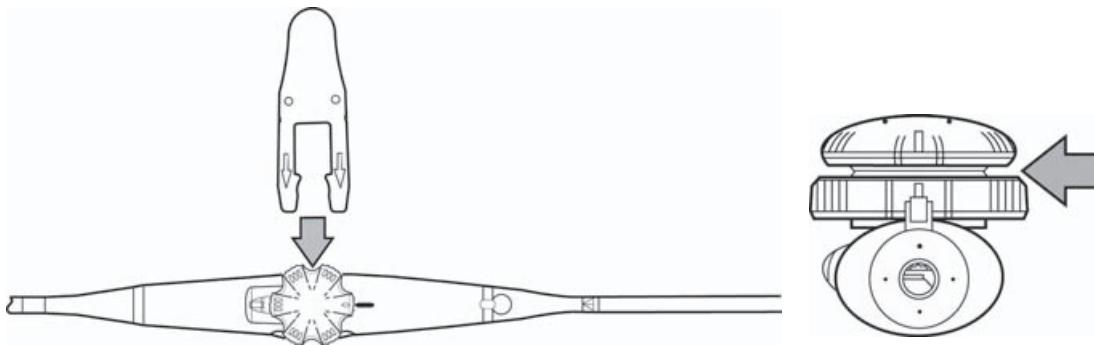

Figure 5 Insertion of the puncture test tool.
- 1 Insert the puncture test tool under the scanplane controller as shown in Figure 5. The puncture test tool is included with the TEExi and TEExp transducer.